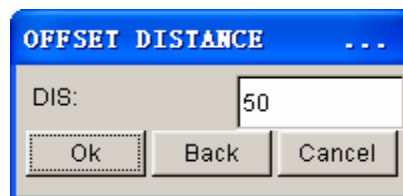

Figure 7.31 Offset distance dialog box
10. Type in **50** (mm) in the **OFFSET DISTANCE** dialog box illustrated in Figure 7.31.